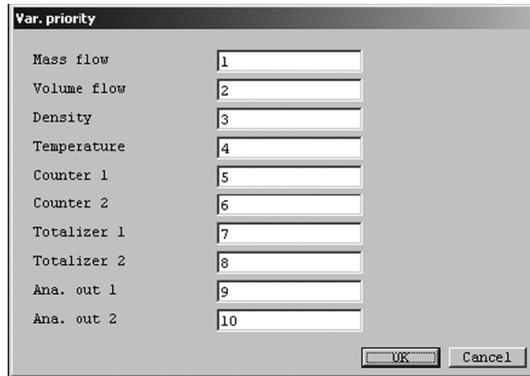

Fig.66
- ① Click the "Setup (S)" menu, and then select and click "Var. priority" from the "LCD" drop-down list.
- ② The following window will be displayed (Fig. 66). Set the order to be used for displaying measurement values on the LCD here.